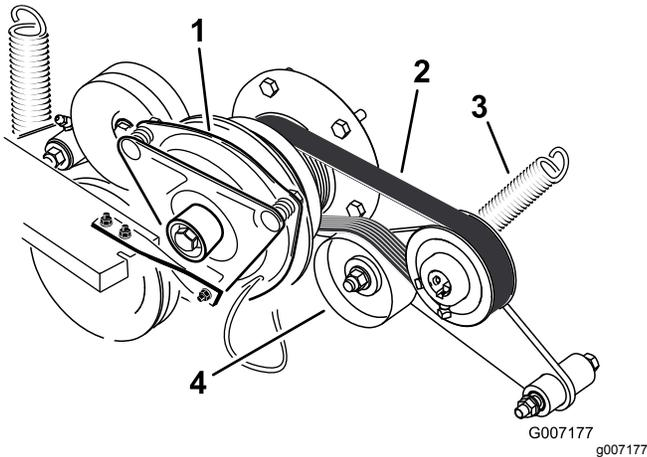

Figure 90
3. Remove the spring from the idler arm (Figure 90).
4. Install the new belt around the engine and hydraulic pump pulley (Figure 90).
6. Install the spring to the idler arm (Figure 90).